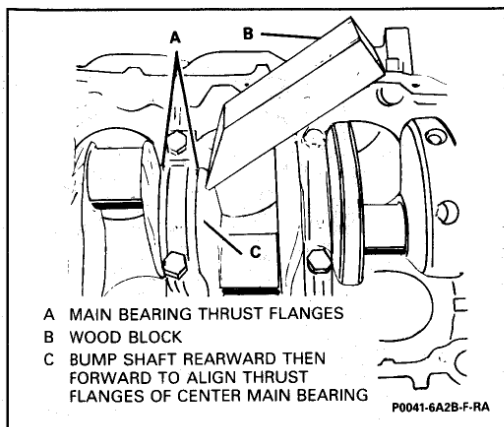
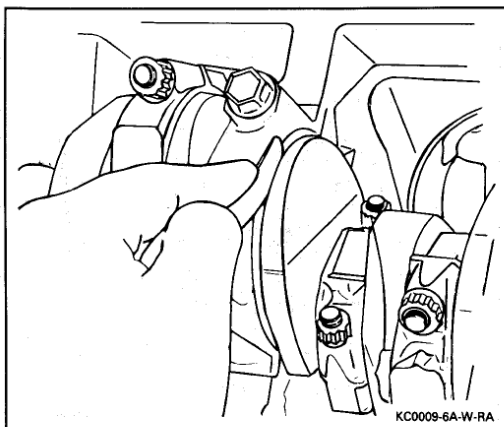

Figure 62 Seating the Crankshaft Thrust Bearing
Figure 63 Measuring Crankshaft End Play
Figure 62 and 63
- 6. Bearing cap (20). Tap gently into place with a suitable tool.
- 7. With crankshaft bearing and bearing caps installed and cap bolts started, thrust crankshaft rearward to set and align bearing caps, then thrust crankshaft forward to align rear face of thrust main bearing (Figure 62).
- 8. Main bearing cap bolts (19).
- Main bearing cap bolts (19) evenly to 50 N·m (37 lb. ft.).
- Turn main bearing cap bolts (19) evenly an additional 77° using J 36660.
- Crankshaft end play (Figure 63).